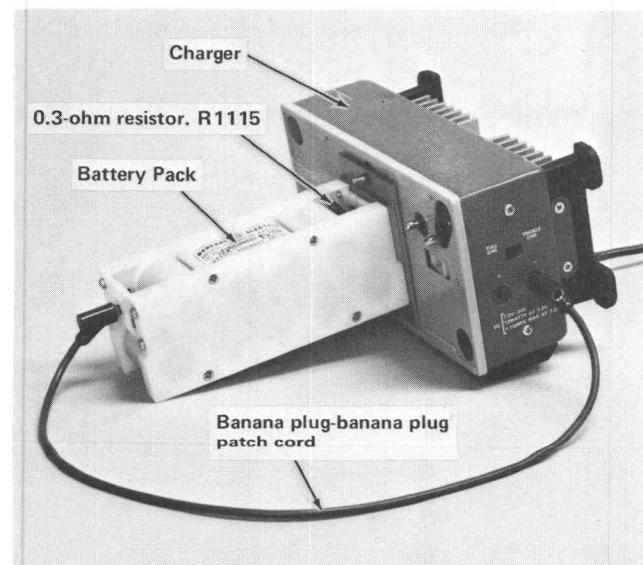

Fig. 5-19. Ground connection required to charge Battery Pack outside of instrument.
- b. Connect a banana-banana patchcord from the negative battery pack output terminal to the negative external DC supply banana plug. See Fig. 5-19.